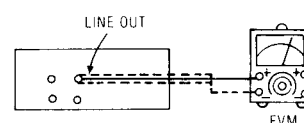

Fig. 4
- The serial number plate of this product is attached to the back chassis (shown in fig. 4).
1. Test equipment connection is shown in Fig. 4.